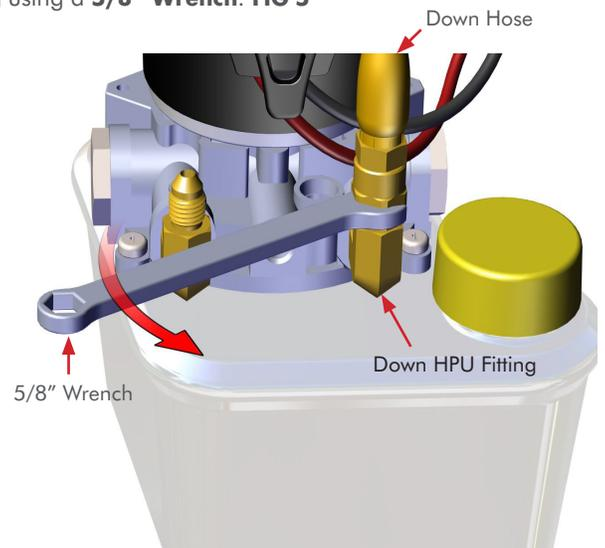

Figure 5
STEP 5 Remove the defective **DOWN Hose** from the **DOWN (Right) HPU Fitting** using a **5/8" Wrench**. **FIG 5**